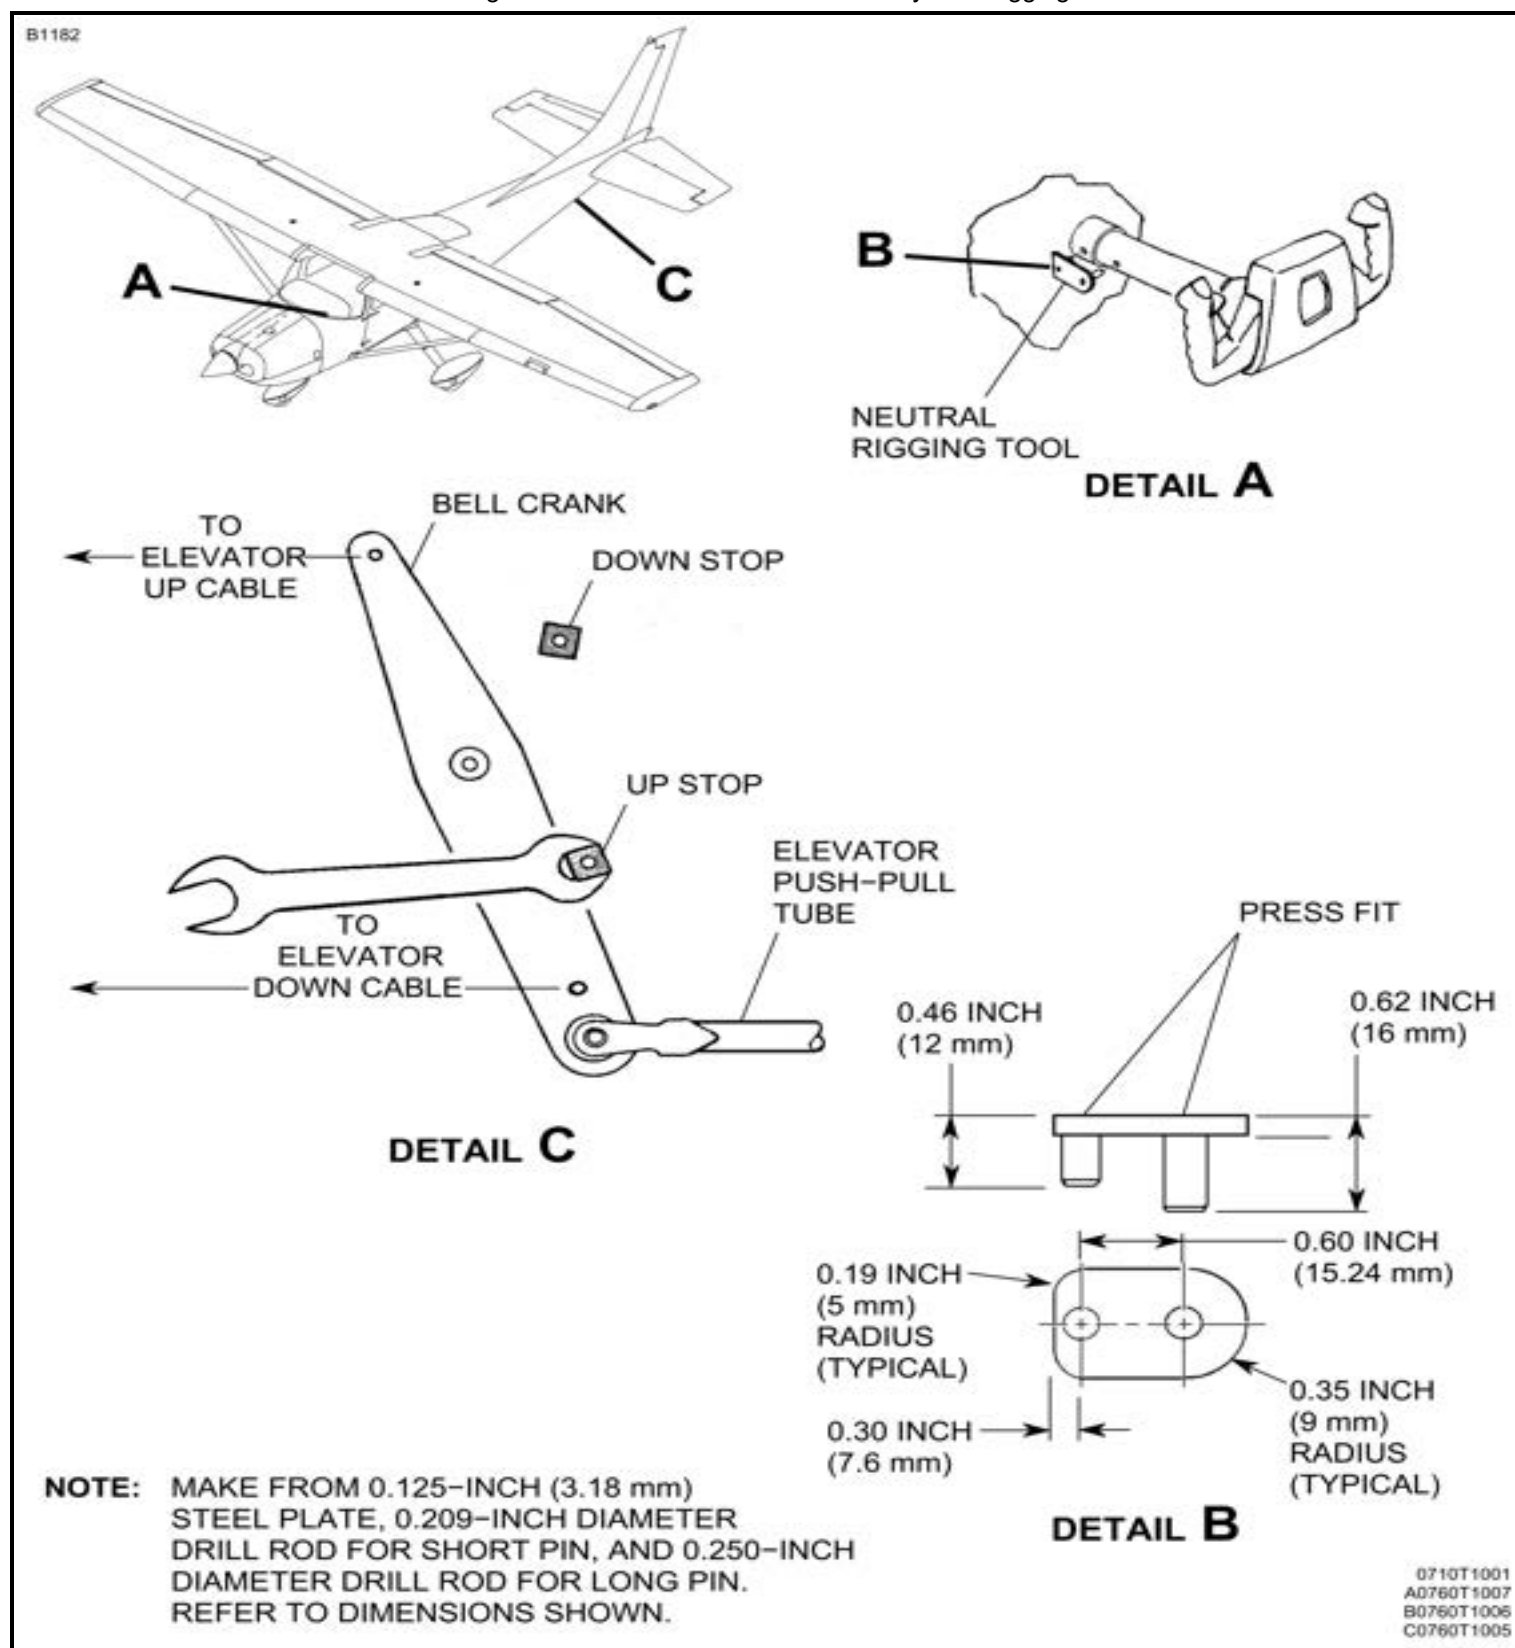

Figure 203 : Sheet 1 : Elevator Cable Tension (without the GFC-700 Autopilot)
- (4) While you hold the elevators in the neutral position, adjust the turnbuckles equally to cable tension at 70 °F (21 °C). Refer to Figure 203 for the correct tensions at other temperatures.